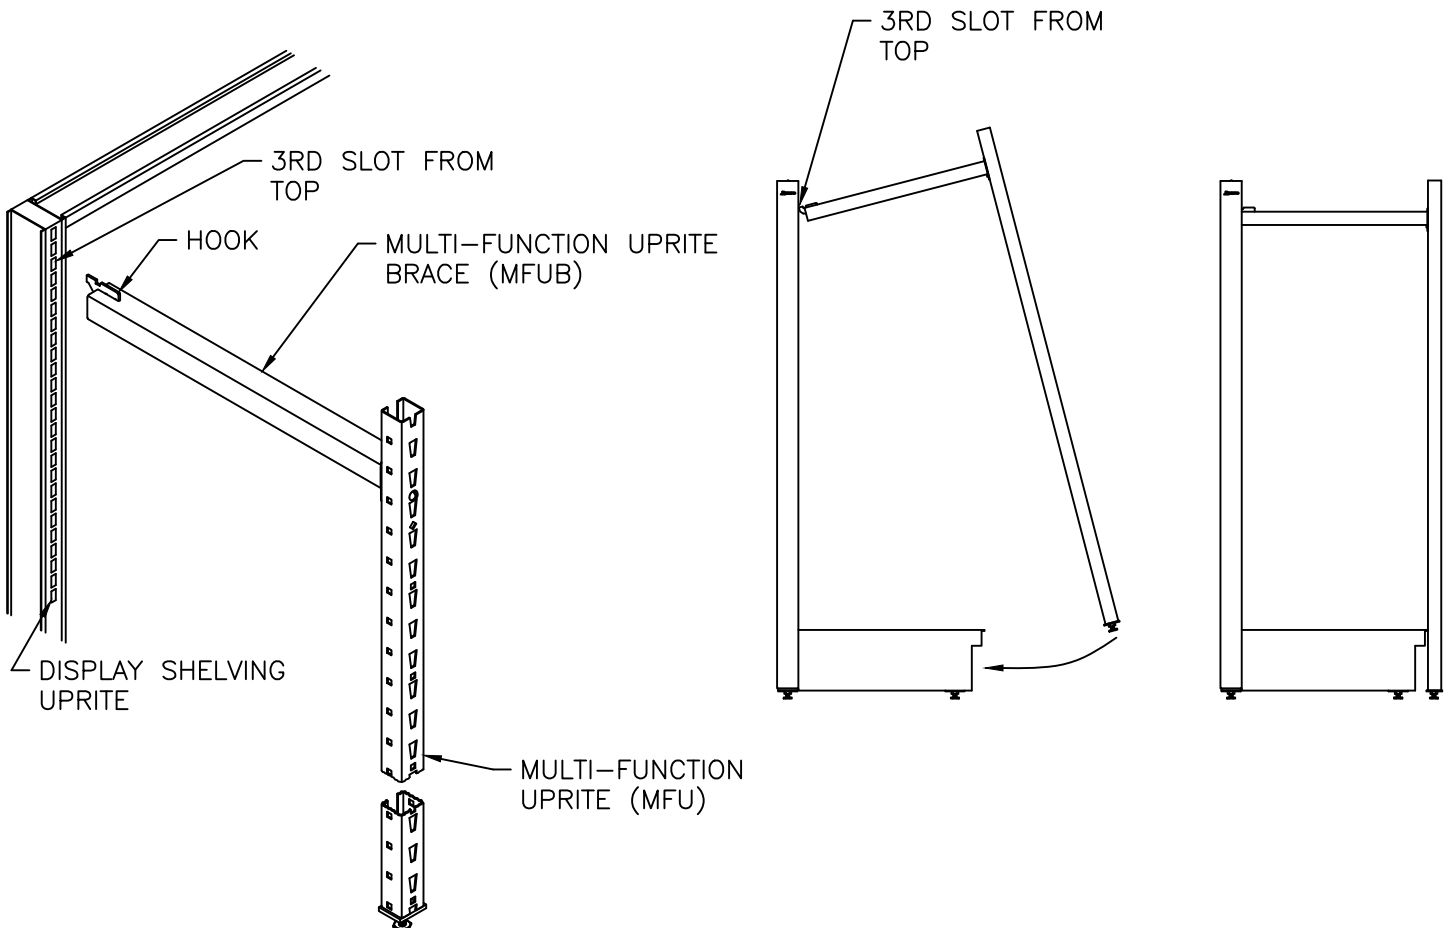

FIGURE 2
- b) Rotate Upright/Upright Brace as shown to bring the Upright to a vertical position (SEE FIGURE 2).